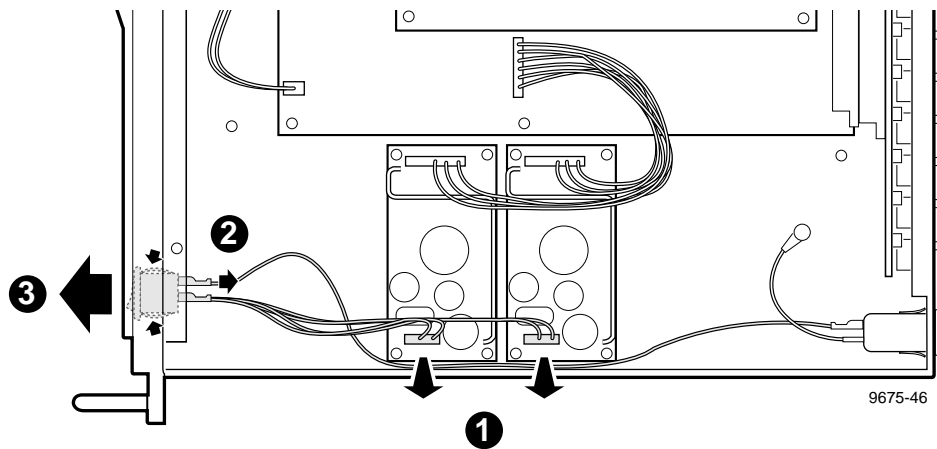

Figure 6-34. PAC 208/216 Switch and Cable Removal
2. Disconnect the cables from the power supply and the rear panel line filter (1 and 2 in Figure 6-34).
3. Compress the retaining clips on the switch and remove the switch and cable through the front of the chassis (3 in Figure 6-34).
1. Slide the cable and switch through the front of the chassis so that the 0 on the switch is on the left (Figure 6-34).